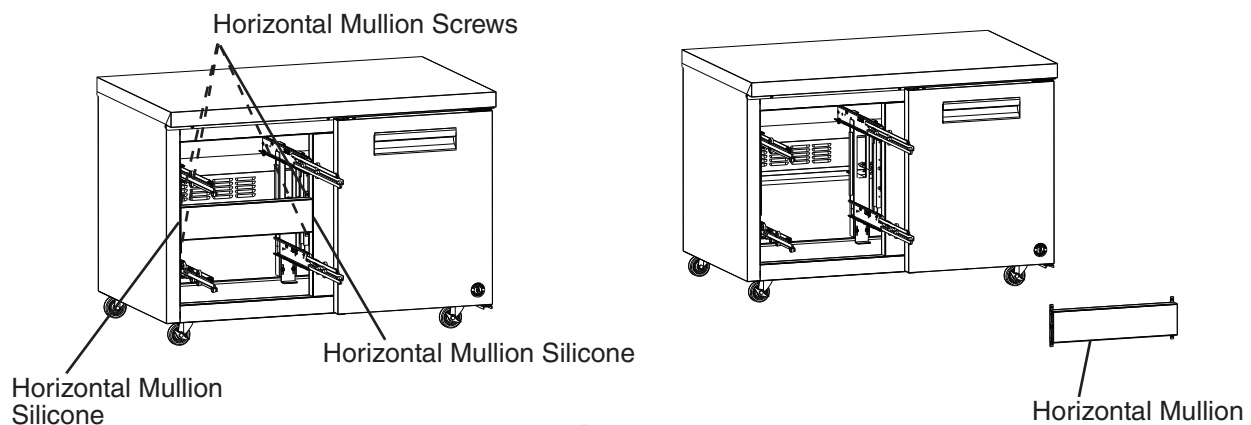

Fig. 17
- 3) Remove the 4 horizontal mullion screws, then cut the horizontal mullion silicone loose and remove the horizontal mullion. See Fig. 17.